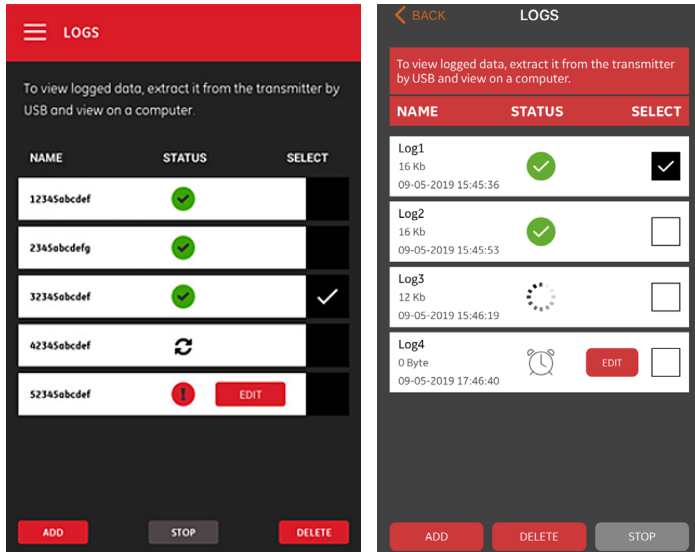

Figure 115: LOGS main menu
In the *logs* main menu (see *Figure 115* below), all existing logs and their current status are listed. Each listed log may be edited, stopped or deleted, depending on their current status.
1. On the *logs* main menu (see *Figure 115* on page 49), Click in the *select* column to the right of the log you wish to delete.
1. On the *logs* main menu (see *Figure 115* on page 110), click in the *select* column to the right of the log you wish to stop.
1. On the *logs* main menu (Figure 115 on page 49, click in the *select* column to the right of the log you wish to edit.